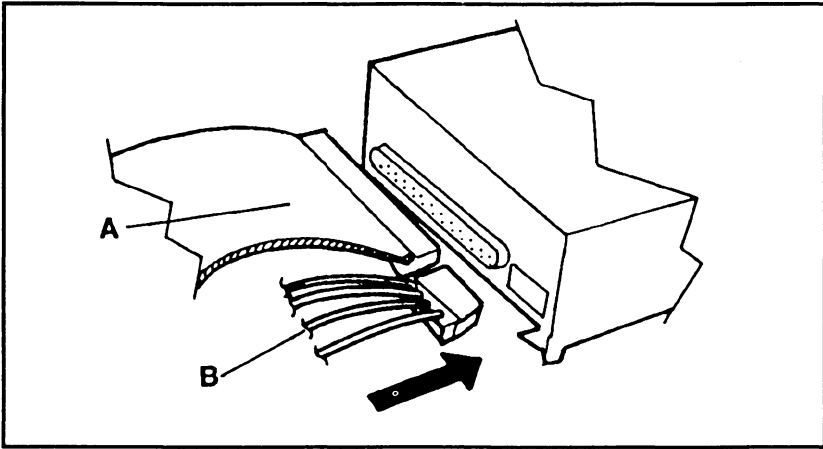

Figure 2-10. Connecting the cables to the Maynard 150 drive
If you are installing a Maynard 150 or 600 internal cassette drive (see Figure 2-10), connect the data cable (A) to the drive. The flat data cable attaches with the colored line closest to the power connector (B).